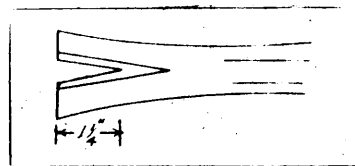

Figure 3.
4. Split open the end shown in Figure 3. This can be done several different ways, but one of the best is to use a hot cutter. By the use of the steel square and the center punch measure off and mark the center line off in order that you will know where to split. Heat to a cherry